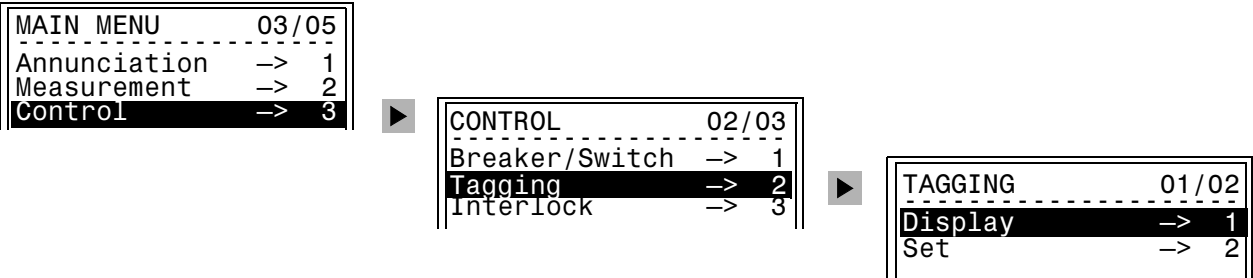

Figure 4-11 Tagging equipment from the operator control panel
- The status of the tagging is displayed on the operating panel, **Main Menu → Control → Tagging → Display** (Figure 4-11), or changed using